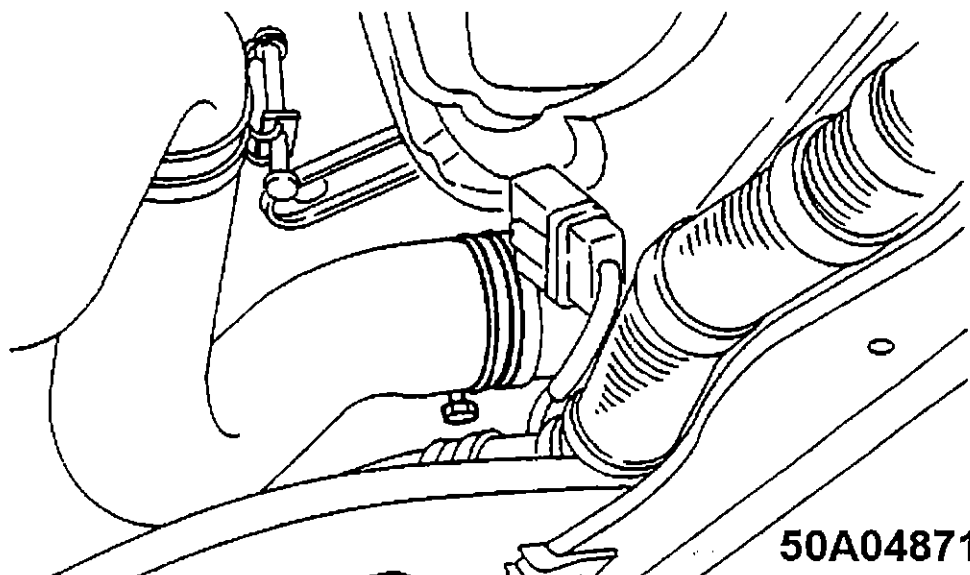
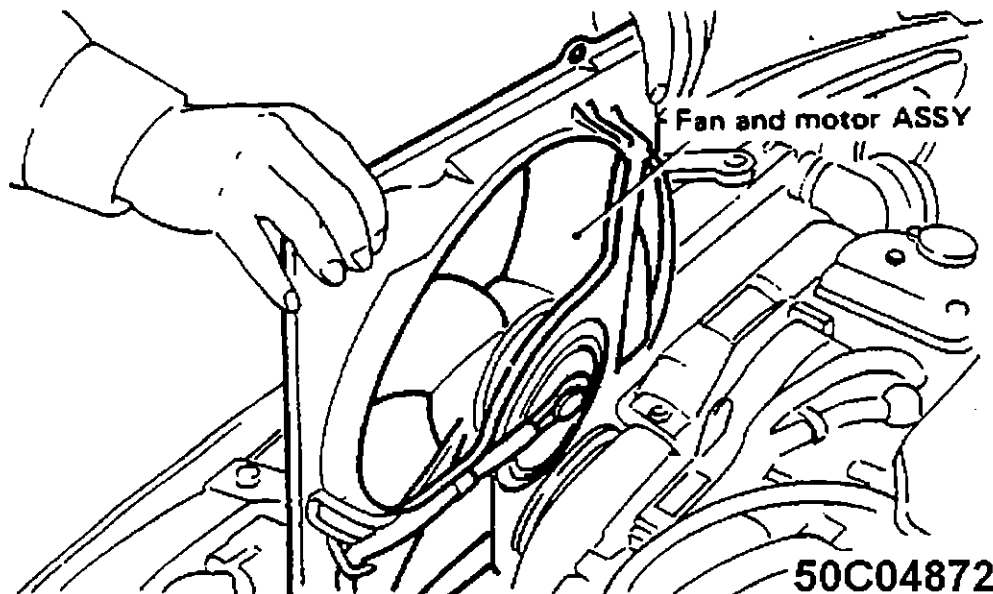

Fig. 11: Radiator Outlet Hose Identification
Fig. 12: Removing Radiator/Fan Assembly
1) Disconnect negative battery cable. Drain engine coolant. Disconnect radiator outlet hose clamp. See Fig. 11. Remove radiator/fan assembly as a unit. See Fig. 12.